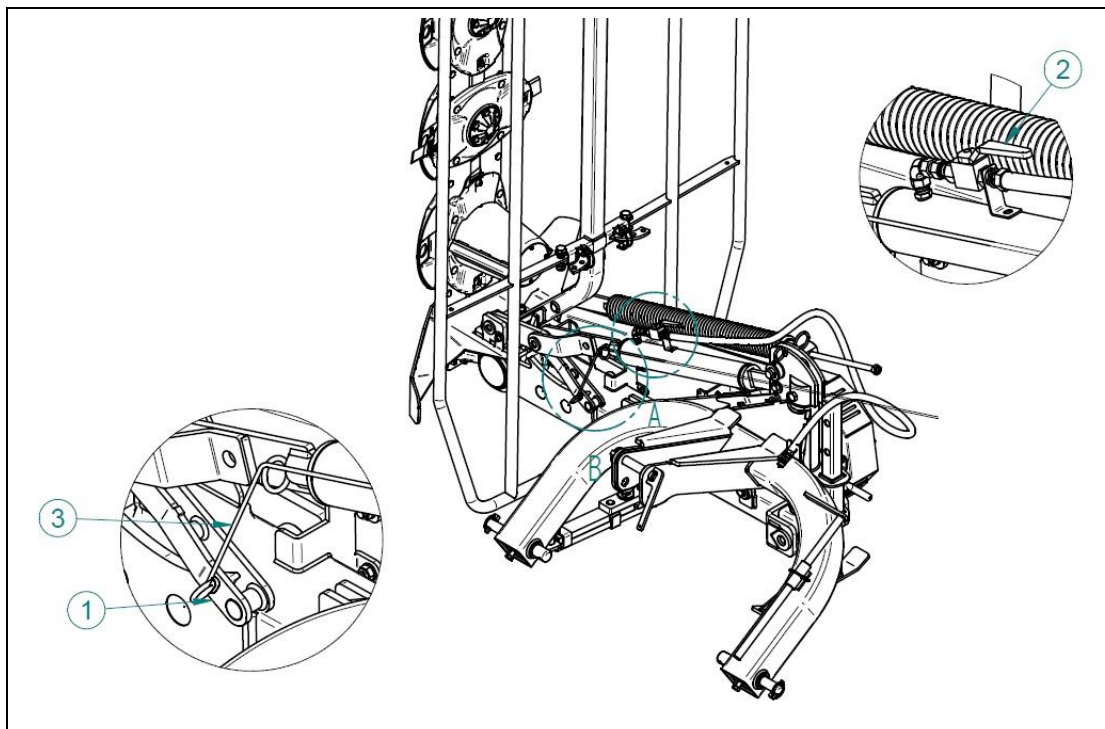

Fig. 9 Transport position
1. In the transport position A it is necessary to unlock the latch (1) Fig. 9 during the lifting up and closing of the valve (2) on hydraulic cylinder.